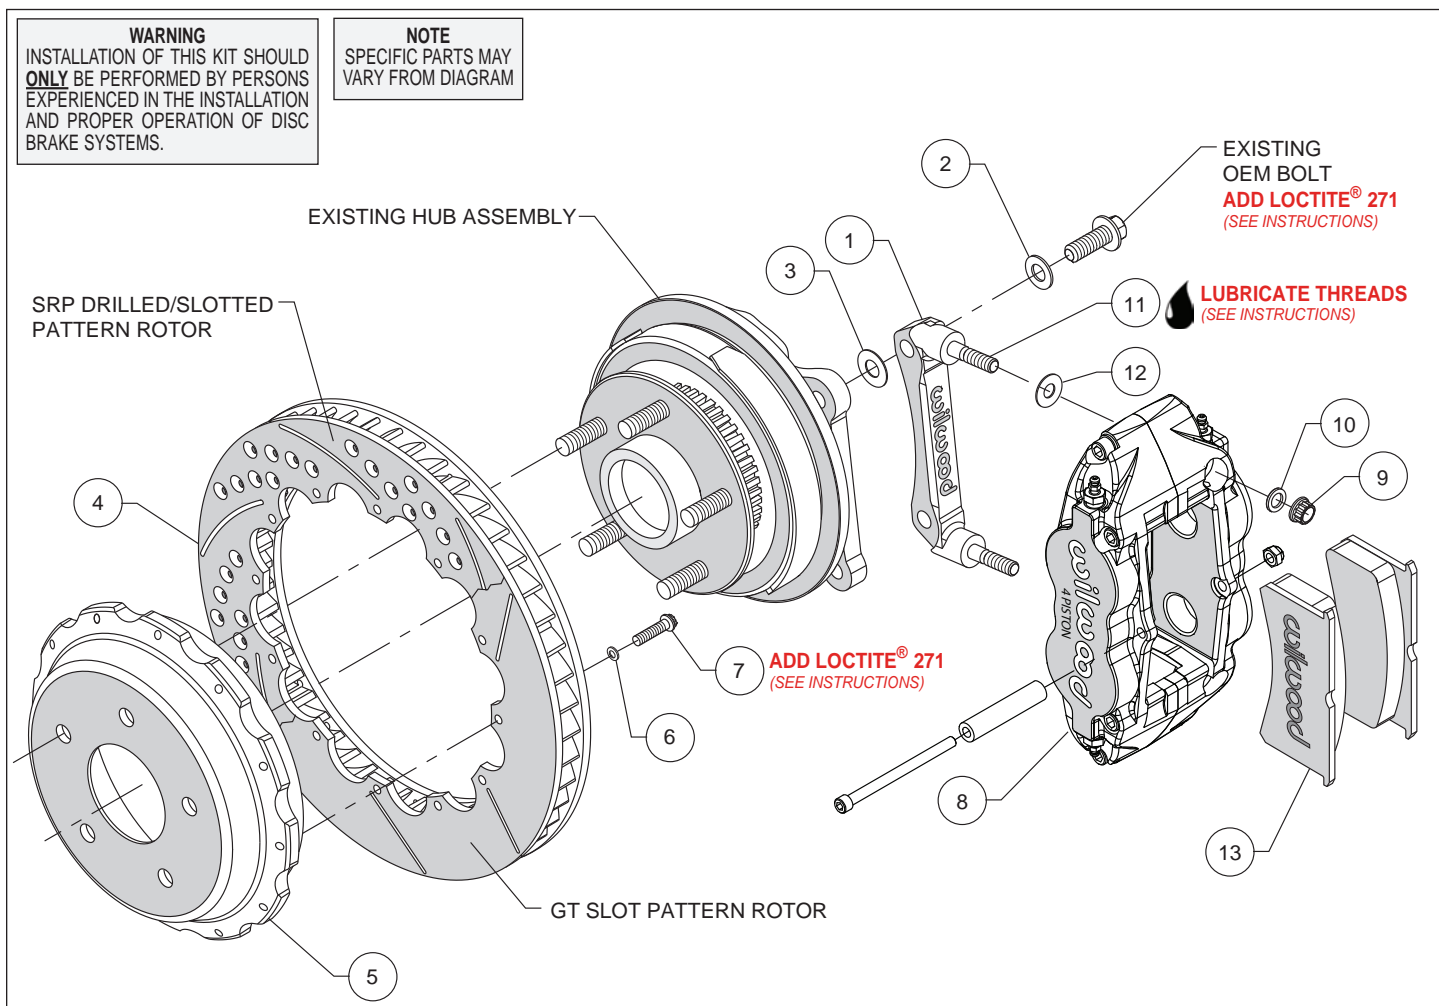

Figure 1. Typical Installation Configuration
- The caliper mount bracket assembly (1) should be installed first with clean, dry threads on the existing OEM mounting bolts. Install the bracket from the rear side of the hub by sliding stock bolt through flat washer (2), through the caliper mounting bracket (1) and shim washer (3) through the OEM caliper mounting bracket ears as shown in Figure 1 and Photo 1. The bracket must tighten squarely against the inboard side of the caliper mount bosses on the upright. Inspect for interference from casting irregularities, machining ridges, burrs, etc. Use one thin shim (3) between the bracket and upright during initial trial fitting. Later, after the caliper, pad, and rotor alignment has been checked, and any necessary shims have been put in place, the mounting bolt threads should be coated with red *Loctite*® 271 and torqued to 75 ft-lbs.
- Orient the rotor (4) and hat (5) as shown in Figure 1 and Photo 2. Attach the rotor to the hat with bolts (7) and washers (6). Using an alternating sequence, apply red *Loctite*® 271 to the threads and torque bolts to 140 **in-lb**. For an added measure of security, the bolts may be safety wired using standard 0.032 inch diameter stainless steel safety wire as shown in Figure 4. Please refer to Wilwood's data sheet DS-386 (available at [www.wilwood.com/Pdf/DataSheets/ds386.pdf](http://www.wilwood.com/Pdf/DataSheets/ds386.pdf)) for complete safety wire installation instructions.